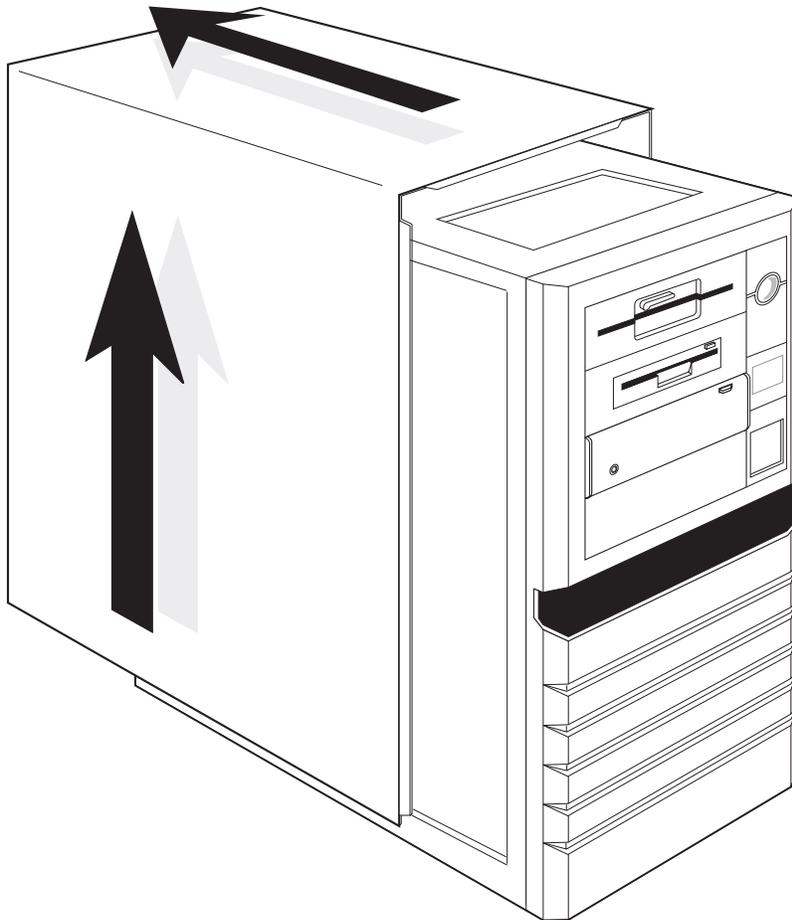

Figure 6-1: Desktside Chassis Cover Removal
4. Slide the top cover back and lift the rear edge up (as indicated by the arrows on Figure 6-1). Remove the cover and place it out of the way.